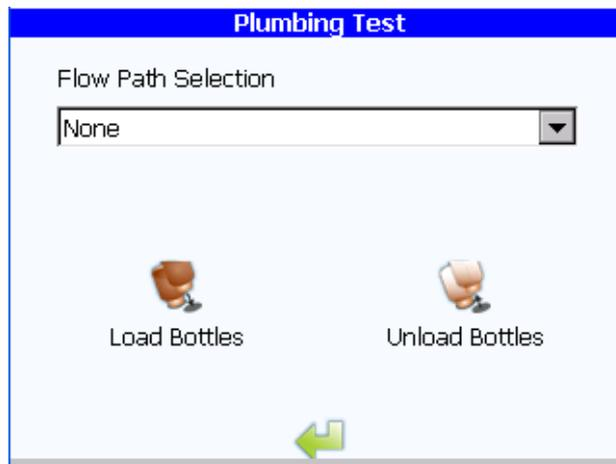

Figure 8-8 Plumbing test dialog box
The plumbing test icon allows you to test the various analyzer plumbing systems. See Figure 8-8.
You are first notified that the current analysis is stopped and asked if you want to continue. In this dialog box, you may select preconfigured valve and pump combinations to test. Entering the plumbing test dialog box triggers an entry in the audit trail. See Figure 8-8.
- 3) After you've entered the correct bottle information, touch the run test icon, which returns you to the plumbing test dialog box. See Figure 8-8, page 129.